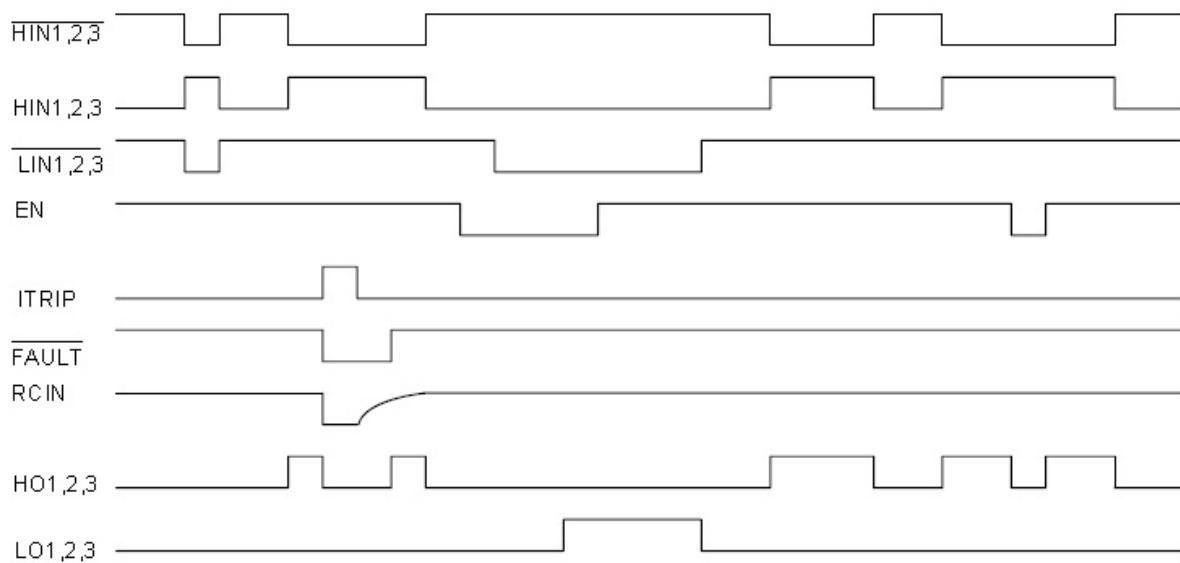

Fig. 1. Input/Output Timing Diagram
3. The input/output logic timing diagram is shown in Fig. 1.